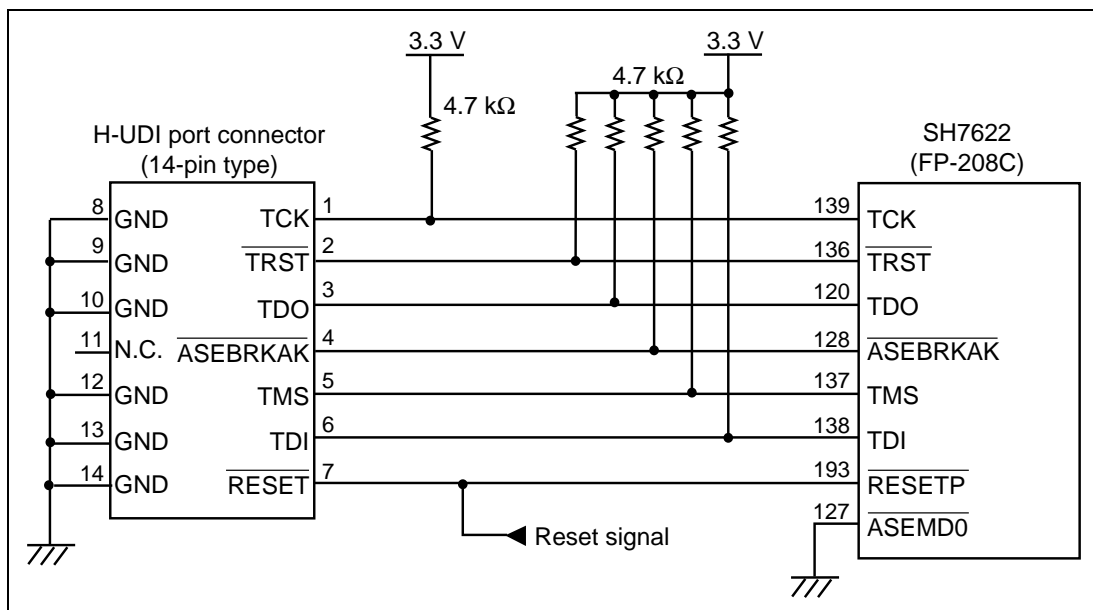

Figure 1.5 Recommended Circuit for Connection between the H-UDI Port Connector and MPU (14-Pin Type)
Figure 1.5 shows a recommended circuit for connection between the H-UDI port connector (14 pins) and the MPU.
- (1) When the emulator is used: /ASEMD0 = low (ASE mode)
- (2) When the emulator is not used: /ASEMD0 = high (normal mode)
6. The resistance values shown in figure 1.5 are recommended.